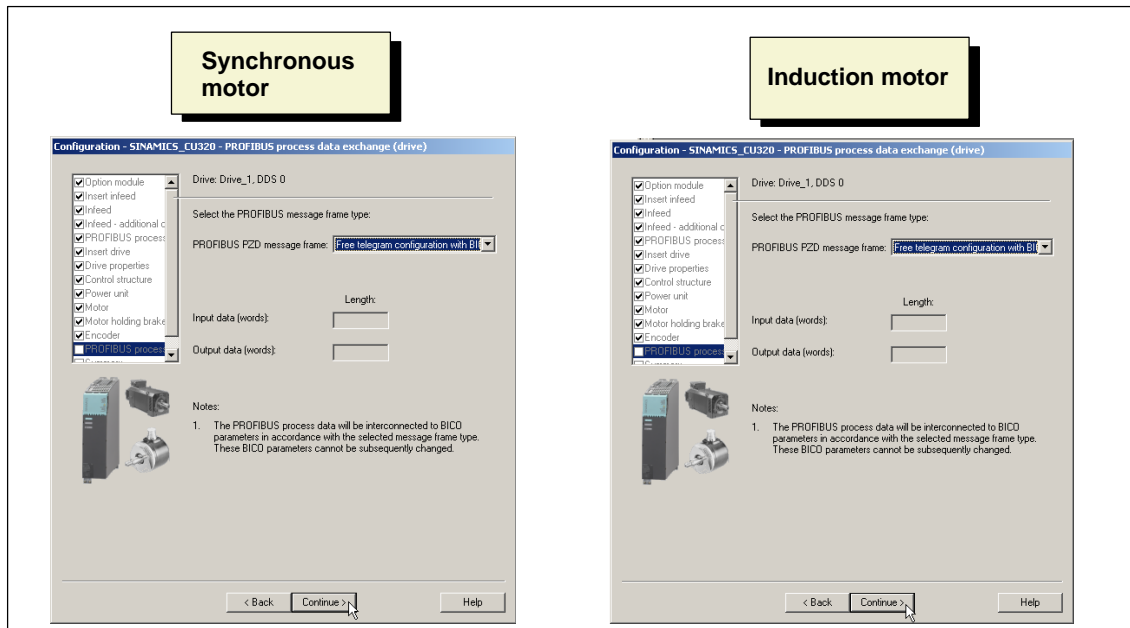

Fig. 3-28 Process data exchange
23. Click on **Continue >** to select the process data exchange in the next step (see Fig. 3-28).